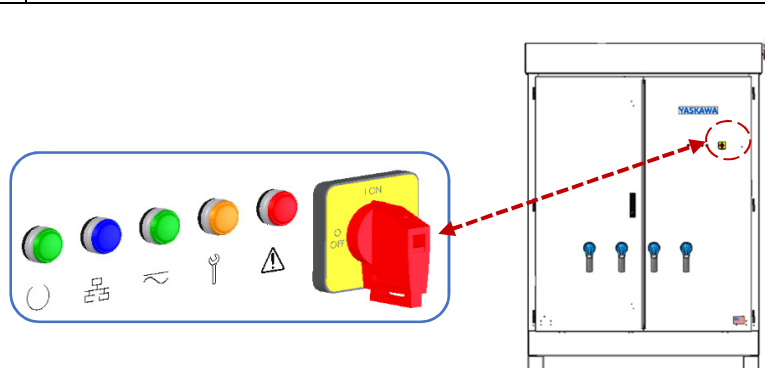

Fig. 3-3. LOCAL AC SHUTOFF SWITCH ON INVERTER COVER
Turn OFF the Local AC Shutoff Switch before wiring. The Local AC Shutoff Switch sends a signal to the inverter to turn off and open the load-break rated AC contactor. The Local AC Shutoff Switch is located on the right-hand side of the front of the inverter (see Fig. 3-3).
1. Turn OFF the Local AC Shutoff Switch on the XGI 1500-1MW inverter (see Fig. 3-3.)
5. Turn ON the Local AC Shutoff Switch on the XGI 1500-1MW inverter (see Fig. 3-3)